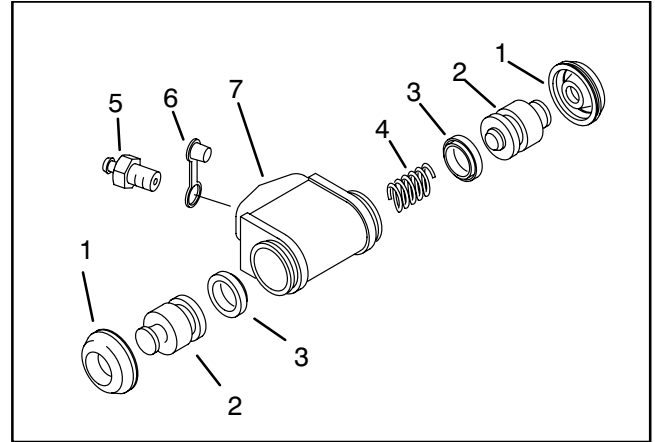

Figure 7
3. Remove two (2) cap screws and lock washers that secure brake cylinder to brake backing plate. Remove brake cylinder assembly.
4. Remove dust covers, pistons, L-type seals and spring from brake cylinder body (Fig. 7). Discard dust covers and seals.